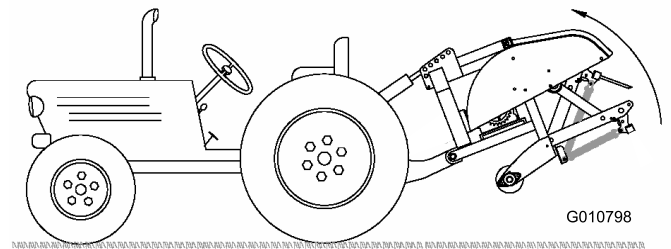

Figure 11
2. Raise the aerator completely and fully retract the hydraulic top link cylinder or upper link (Figure 11).